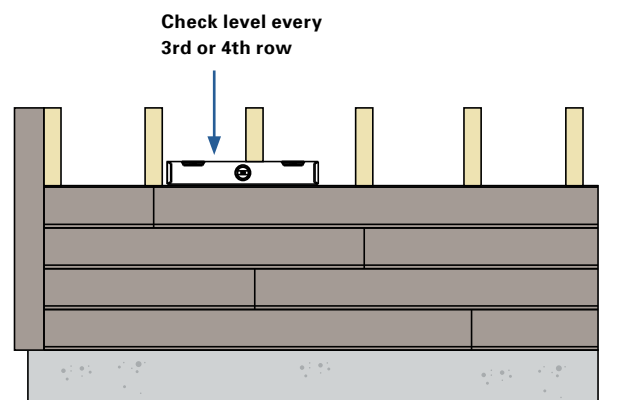

Fig. 28
- Check the level of the boards every 3rd or 4th row. A variance from 1/16" to 1/8" is considered acceptable. (See Figure 28)